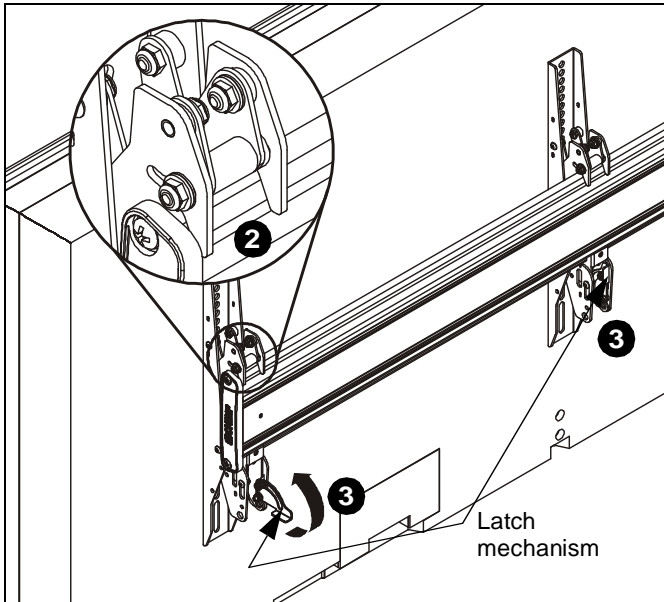

Figure 21
2. While supporting both sides of display, lower display onto one side of mounting rail, hooking top of interface brackets onto front of mounting rail. (See Figure 21)
3. Raise the latch mechanism on both interface brackets to lock bracket in place. (See Figure 21)
6. While supporting both sides of each remaining display, lower display onto mounting rail, hooking top of interface brackets onto front of mounting rail. (See Figure 21)